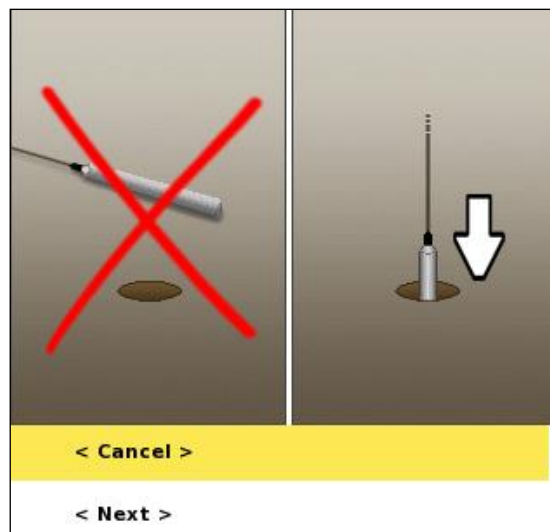

Figure 81 First Check level dialog
- The first dialog (Figure 81) instructs the user to lower the probe into the well